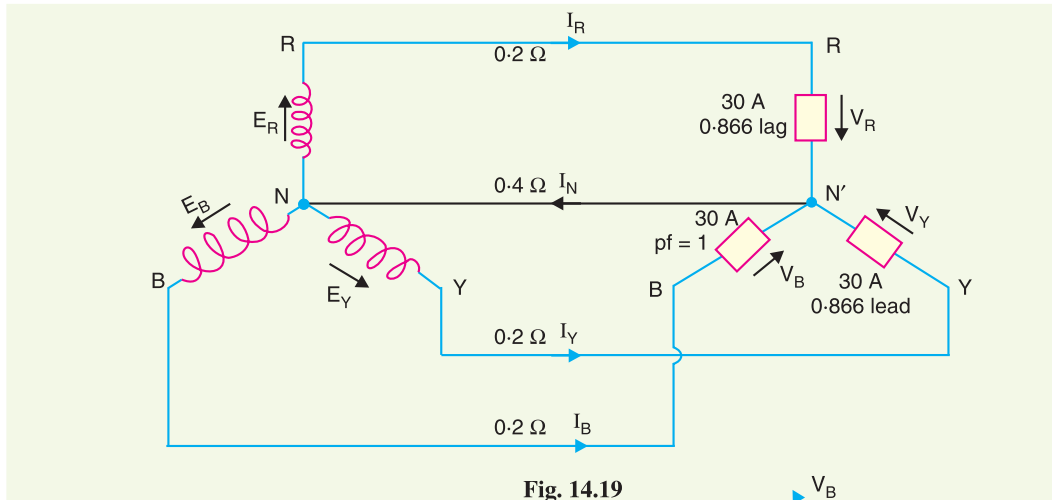

Fig. 14.19
**Solution.** The circuit diagram is shown in Fig. 14.19. Since neutral is half the cross-section, its resistance is 0.4 Ω. Considering the load end and taking  $V_R$  as the reference vector, the phase voltages can be written as :